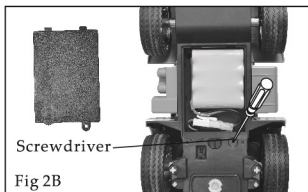

Fig 2B
2. Please screw out the cover at the back of car by screwdriver, open the cover as the arrow showed, insert 1 pcs of 4.8 V AA battery, then screw the cover (Fig 2B).